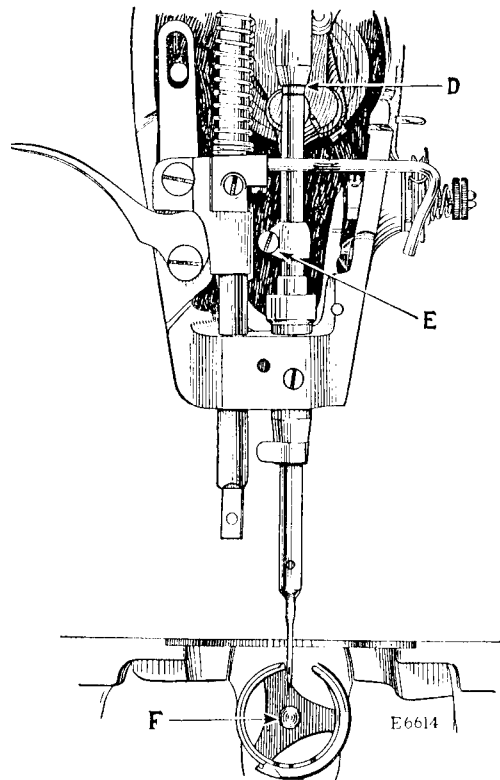
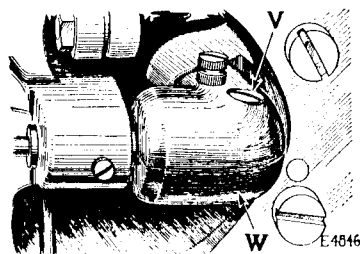
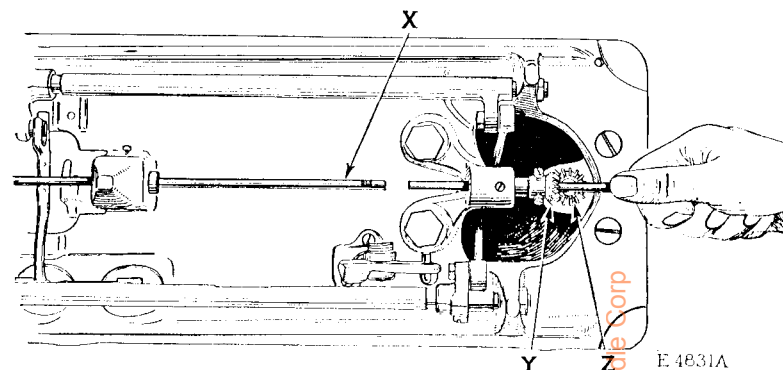

FIG. 19. SHOWING NEEDLE BAR SET AT THE CORRECT HEIGHT
FIG. 24. VIEW OF UNDERSIDE OF MACHINE, SHOWING GEAR CASE
FIG. 25. REMOVING AND REPLACING SEWING HOOK SHAFT
Turn the balance wheel over toward you, until the needle bar moves down to its lowest point. When the needle bar is in this position, the **upper timing mark** on the needle bar should be centred with the lower end of the needle bar bushing, as shown at D, in Fig. 19.
In case the needle bar is not set at the correct height, loosen the screw (E, Fig. 19) in the needle bar connecting stud and move the needle bar up or down until the **upper timing mark** is centred with the lower end of the needle bar bushing, as shown at D, in Fig. 19, then securely tighten the screw (E).
Remove the sewing hook as instructed on page 19. Take out the screw (V, Fig. 24) and remove both sections of the gear case (W, Fig. 24), then wipe the grease away from the gears.
Before removing the hook shaft (X, Fig. 25) from the machine, the gears (Y and Z, Fig. 25) should be marked, using chalk or a red pencil to mark one of the teeth of the gear (Y) and the space of the gear (Z) in which the marked tooth meshes. This is important, as the gears may become dislodged when removing the hook shaft, and the marks will enable you to retain the original relative positions of the gears.
To remove the hook shaft, loosen the two set screws in the gear (Y, Fig. 25), then insert the new hook shaft into the gear
in Fig. 25. By removing the old shaft in this manner, the relative positions of the gears (Y and Z) will not be disturbed. When placing the new shaft in position in the machine, see that the flat portion near one end of the shaft is at the right so that one of the set screws in the gear (Y, Fig. 25) will bear against it when the gear is fastened in position on the shaft. The shaft should be set so that its left end is flush with the body of the sewing hook as shown at F, in Fig. 19. It is advisable to remove the rotating hook section as instructed on page 17, and take out the bobbin case holder so that you can see whether the end of the shaft is flush with the body of the hook. When the shaft is correctly positioned, securely tighten the two set screws in the gear (Y), taking care that one of the screws bears against the flat portion of the shaft. Then time the sewing hook as instructed on pages 17 and 18, and replace the bobbin case holder and rotating hook section. Replace the gear case and securely fasten it in position by means of the screw (V, Fig. 24).